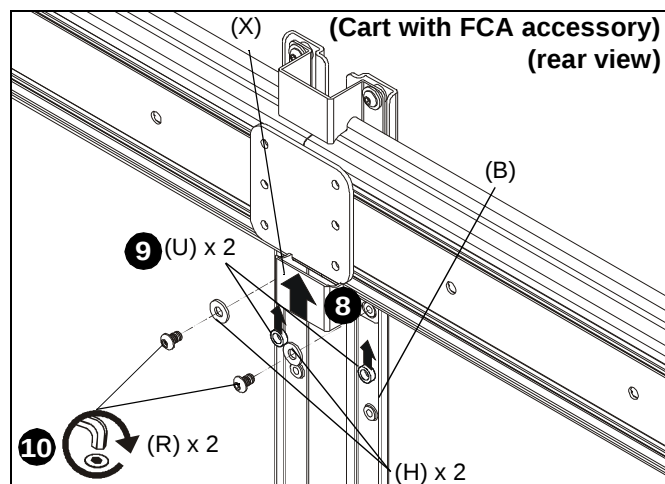

Figure 10
8. Slide second shelf bracket (X) underneath head assembly, lining up holes on shelf bracket (X) to holes on main bracket (B). (See Figure 10)
9. Slide two 1/2" spacers (U) in between shelf bracket (X) and main bracket (B). (See Figure 10)
10. Use two 1/4-20 x 7/16" button head cap screws (R) and two large washers (H) to secure shelf bracket (X) to main bracket (B). (See Figure 10)